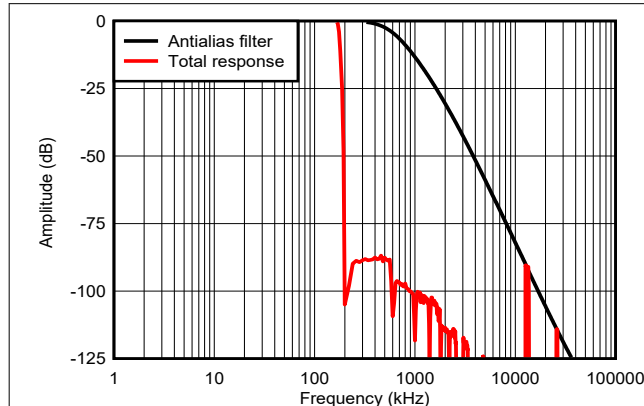

**Figure 9-2. Antialias Filter Frequency Response**
**Figure 9-2** shows the frequency response of the antialias filter and the *total* response of the antialias filter and the ADC. As shown in this image, the filter provides 90-dB stop-band attenuation from the Nyquist frequency to the 12.8-MHz  $f_{MOD}$  frequency.